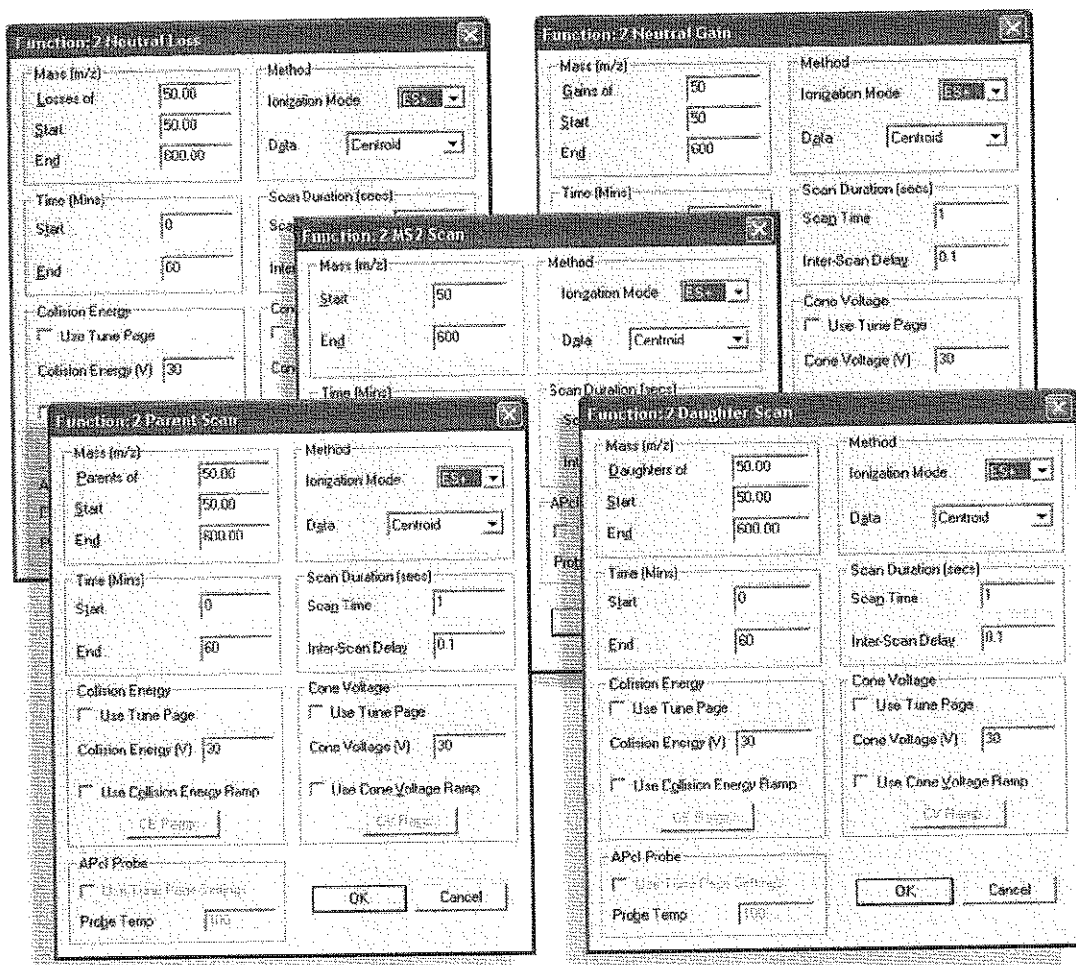

Figure 5-13 MS/MS Scanning Function Editors
1. On the MS Method Editor (see Figure 5-6), click the appropriate toolbar function button to open the appropriate Function Editor. The MS/MS scanning Function Editors are shown in Figure 5-13.